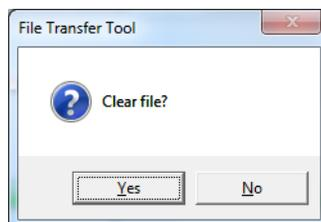

Figure 3-6: Clear File Dialog
9. After the Alibi or Vehicle Transaction files are read from the terminal, a pop-up message (Figure 3-6) will ask if the files are to be cleared.